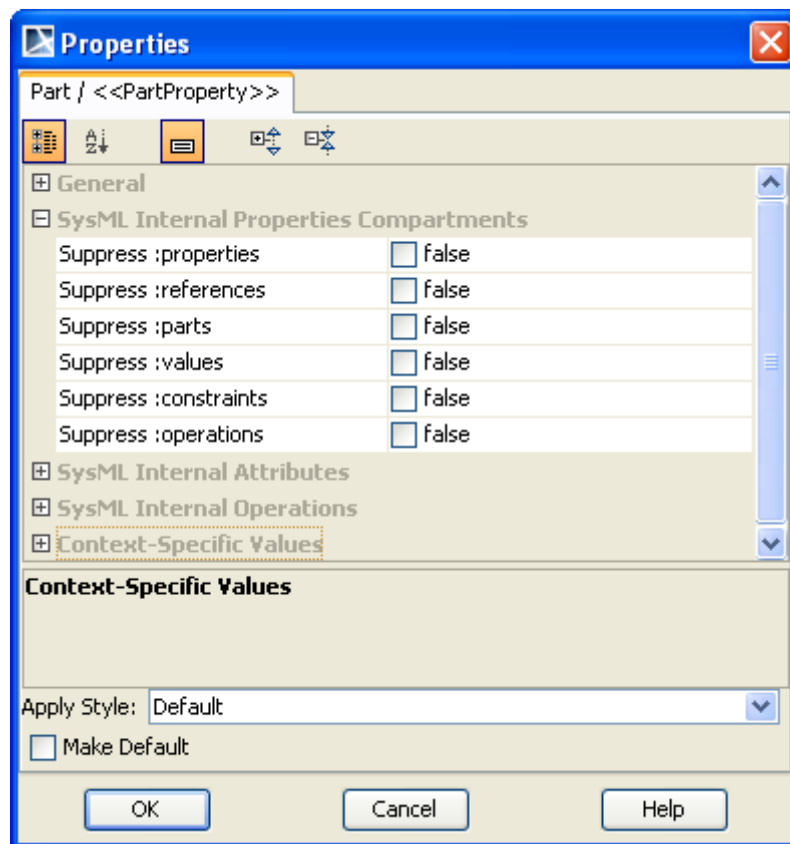

Figure 223 -- Symbol(s) Properties Dialog - SysML Internal Properties Compartments
- The symbol properties for expanding or suppressing feature-based compartments will be listed under **SysML Internal Properties Compartments** (Figure 223).